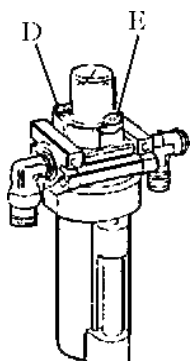

Fig 25
Unscrew with hex wrench (E). Based on connection of compressed air, first to tread Rotation Pedal 5-6 times, and then check whether oil in Oil Fog Maker drops down a drip of oil. For continuous operation, tread twice every time, drop down a drip of oil, and otherwise adjust the screw (D) that controlled oil enters with minus screwdriver. (Fig 25)